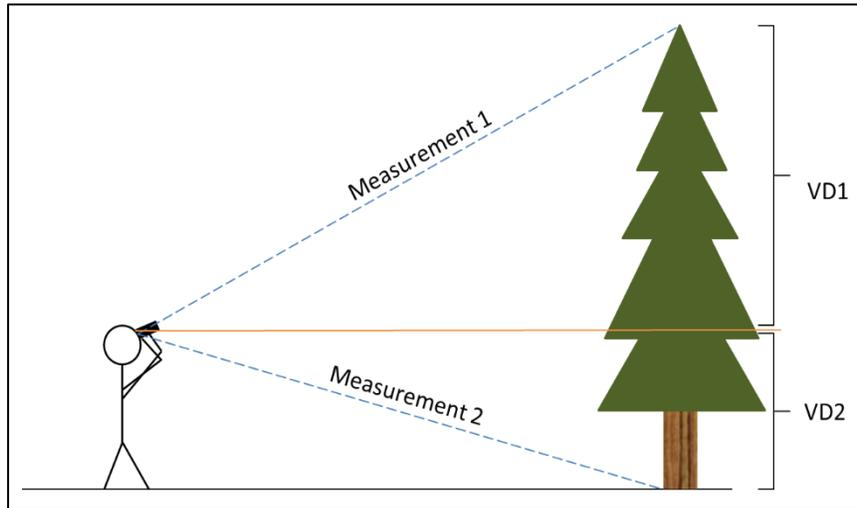

Figure 10. Two shot routine to measure height.
Two measurements are necessary to calculate height (**Figure 10**).
To measure VD1 and VD2 (as in Figure 10):
1. Measurement Mode = Vertical Distance (VD).
2. Select a location from which the point from which height is desired is visible. Both the VD1 and VD2 height measurements as shown in **Figure 10** must be acquired from the same location.